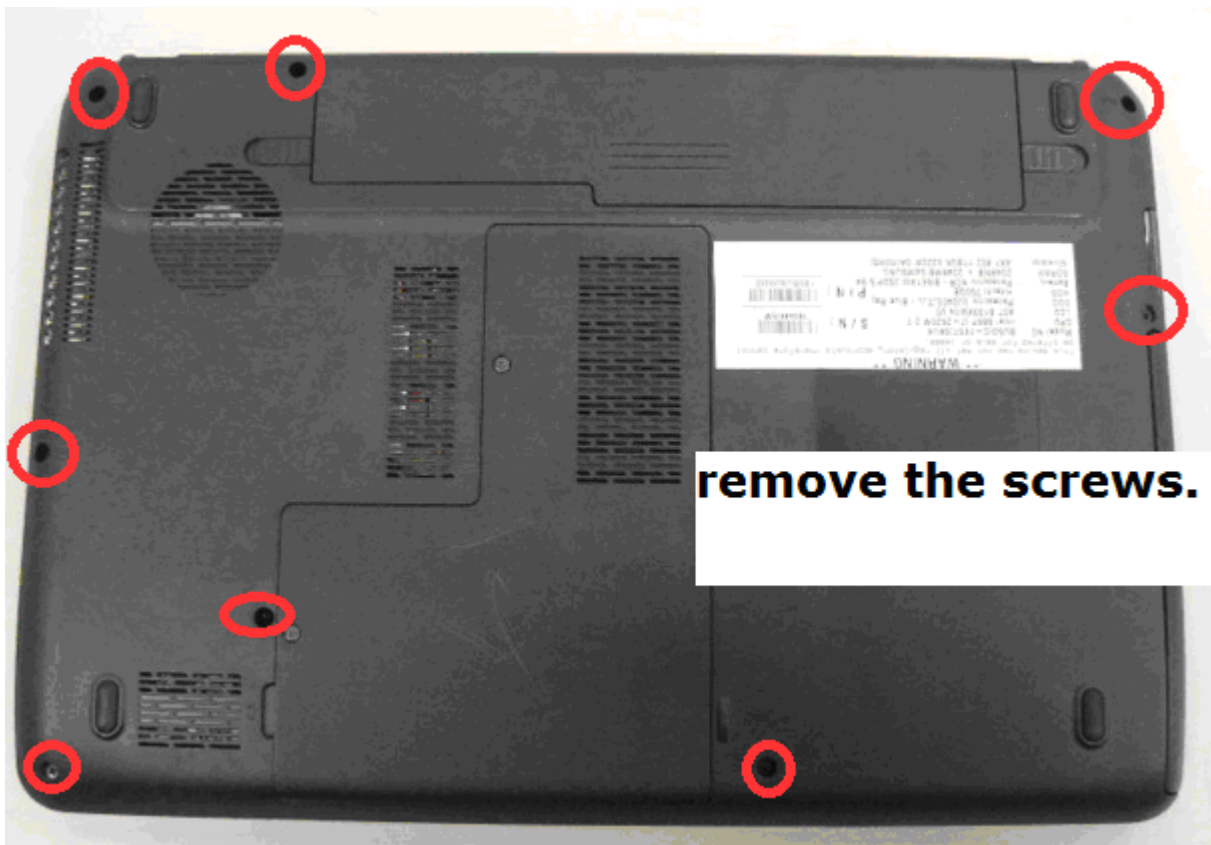

Figure 4-6-1 Remove the screws (from bottom side)
4. Remove SCREW M2.5*6.5F 8PCS from the bottom side. (Figure 4-6-1)